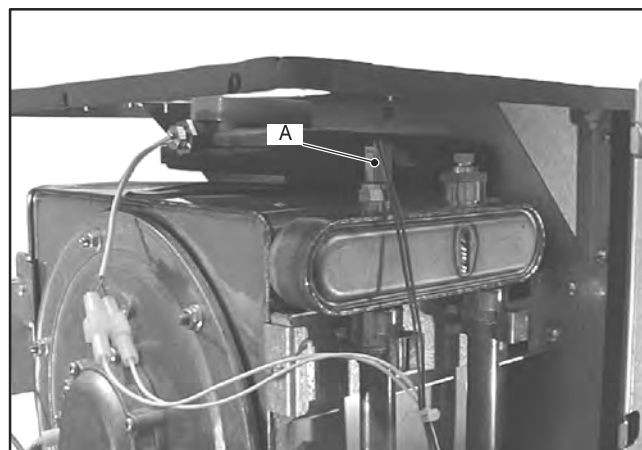

Fig. 15.3
- 3 Remove the electric connector and unscrew the c.h. Temperature probe (Fig. 15.3).